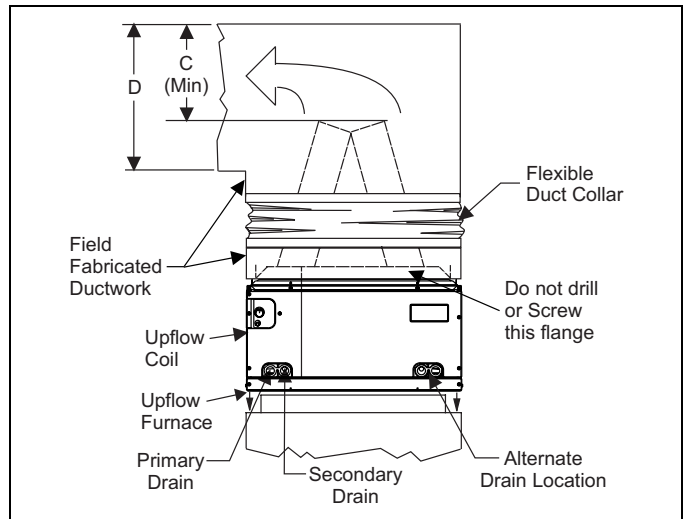

FIGURE 12: PC Series Upflow Coil Installation
1. Position the coil casing over the furnace opening as shown in Figure 12.
*Do not drill any holes or drive any screws into the front duct flange on the coil in order to prevent damaging coil tubing. See Figure 12.*
**NOTE:** Dimension "C" should be at least 2/3 of dimension "D". See Figure 12.